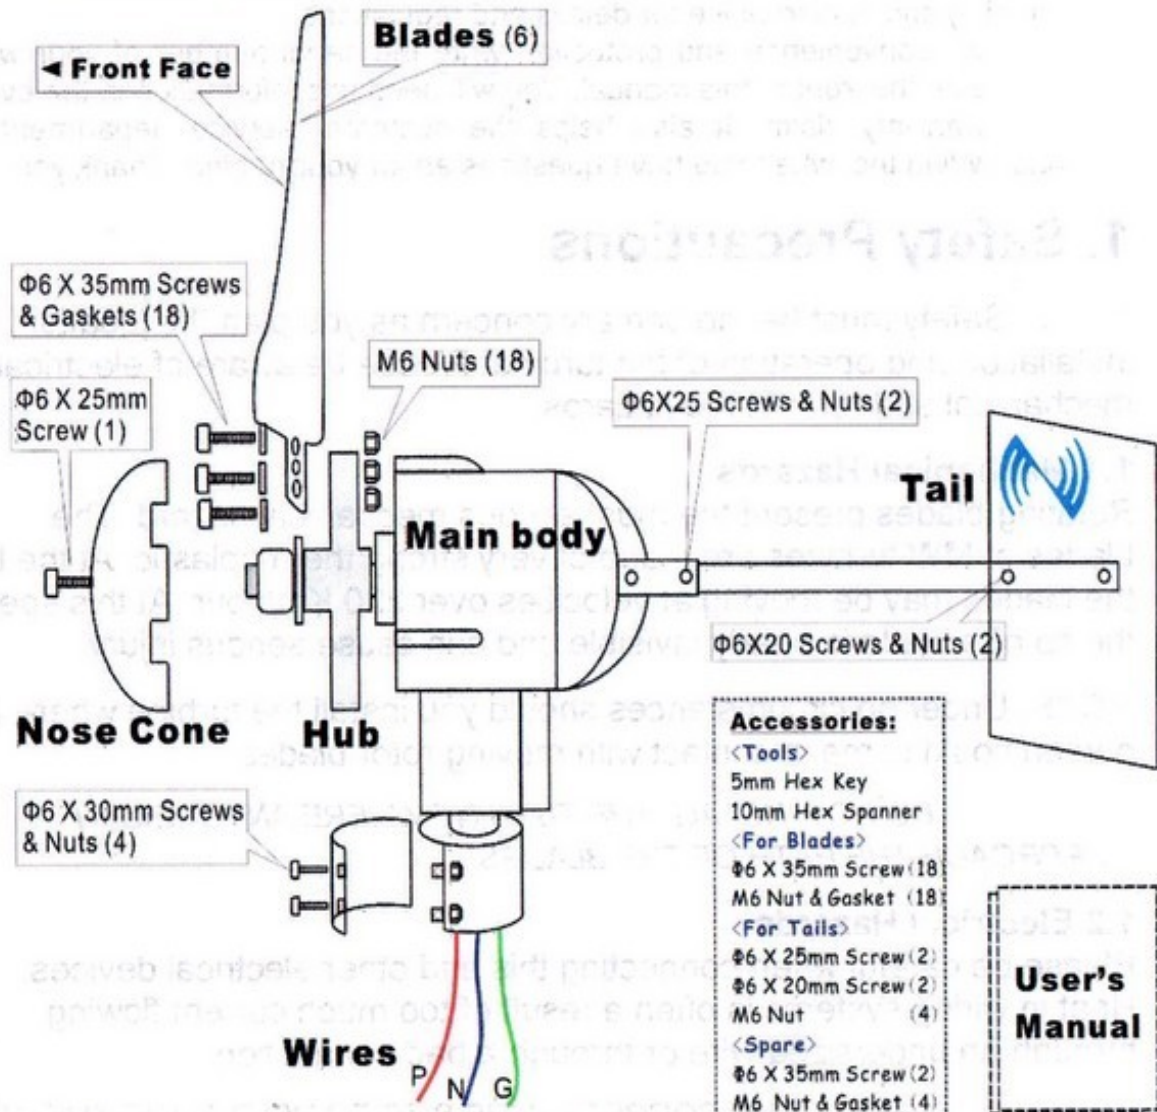

Figure 1: Package
The **MW wind turbine** is shipped partially disassembled. Compare with the parts shown in Figure1 to ensure that all necessary parts are included in the box. And Refer to Figure1 for assembly instructions.
- Make sure a minimum **50 mm** clearance must be given between the blade tips and any obstructions. Refer to *Figure 1* below.
The following **Step-By-Step-Installation-Procedures** provide you with an outline of the MW wind turbine installation process. Please refer to figure 1 while assembling.